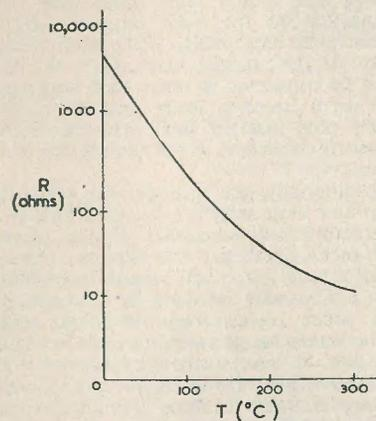

FIG. 1.
When equation (1) is plotted to show the variation of resistance with temperature, putting in normal values of  $a$  and  $b$ , the graph in Fig. 1 is obtained. This shows that an increase in temperature of a few hundred degrees is sufficient to reduce the resistance to one hundredth of its original value. It is possible to produce a bead less than 1mm in diameter with a cold resistance of 500,000 ohms.